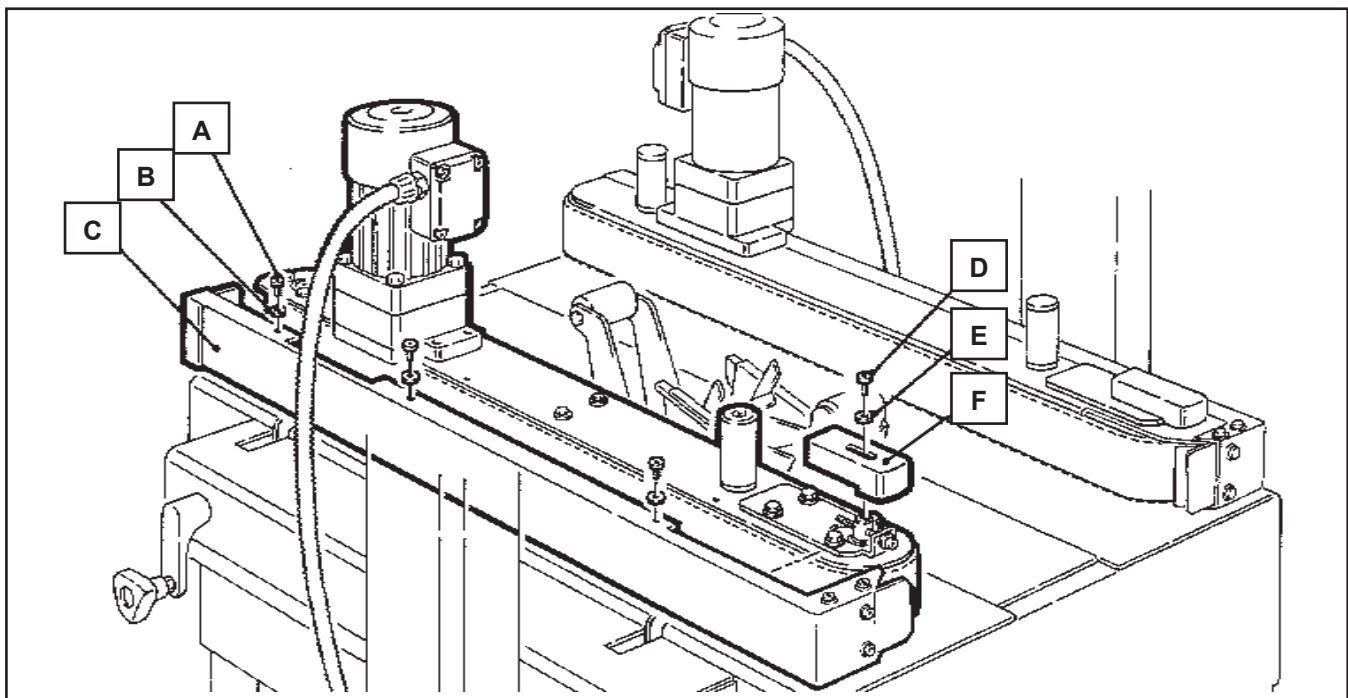
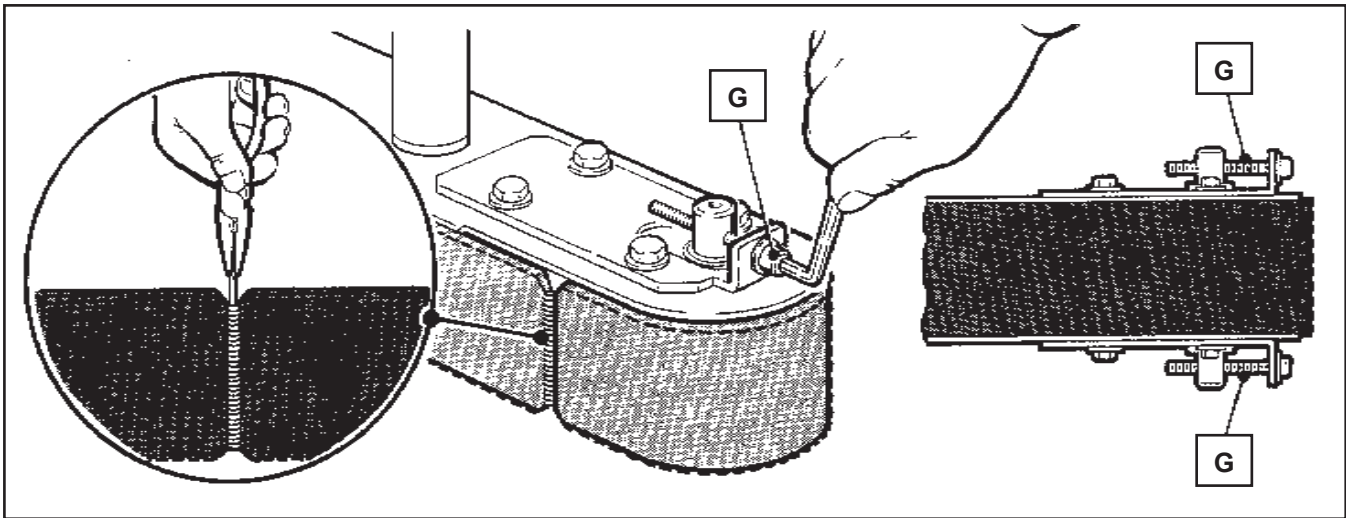

Figure 13-4 – Box Drive Belt (Left Side View – Infeed End)
Figure 13-5 – Box Drive Assembly, Infed End
2. Remove and retain the three (3) screws (A), three (3) washers (B) and side cover (C). **See Figure 13-4.**
3. Remove and retain the screw (D), washer (E) and belt tensioner cover (F).
4. Turn belt adjustment screws (G) counterclockwise on both the upper and lower tension assemblies until belt is loose. **See Figure 13-5.**
7. To set drive belt tension, turn adjustment screws (G) equally on both the upper and lower tension assemblies. Turn the screws clockwise to increase tension or counterclockwise to decrease tension. **See Figure 13-5.**
8. Reverse procedures in Steps 1-3 (**Figure 13-4**) to reassemble the drive belt assembly.